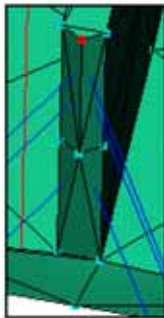

Figure 153: Merged node moves corner
- The fixed corner looks like Figure 153.